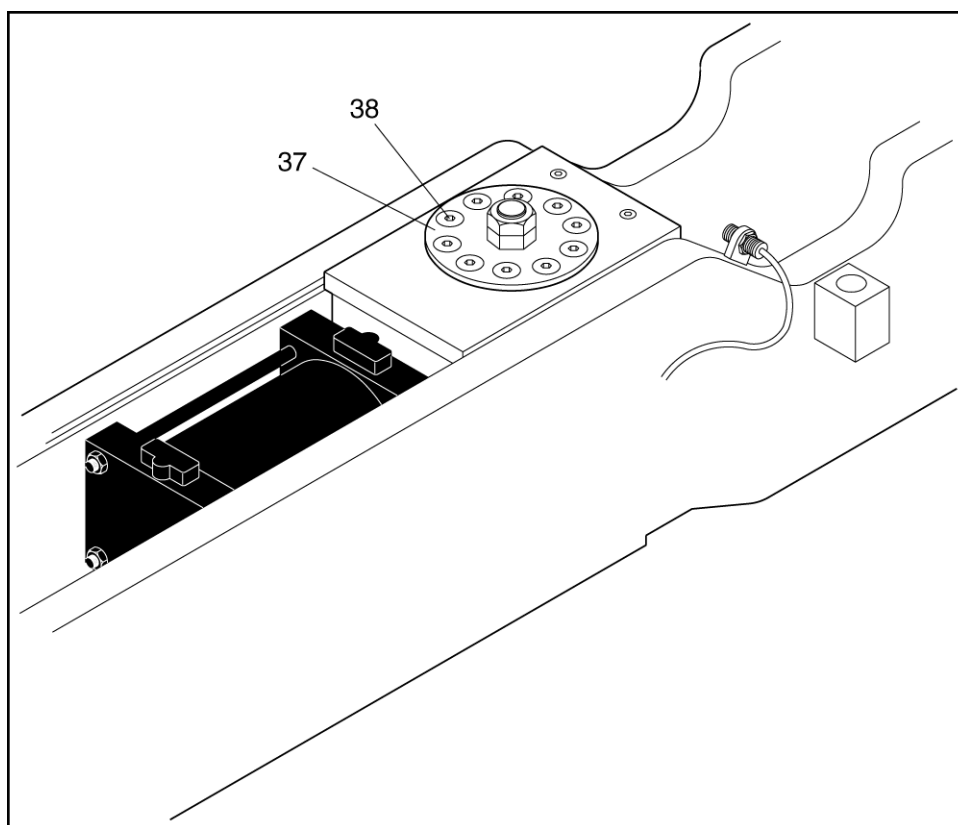

Figure 16.1 HEAD CLAMP
16.2.1 Procedures to check spring tension (refer to figures 16.1 and 16.2):